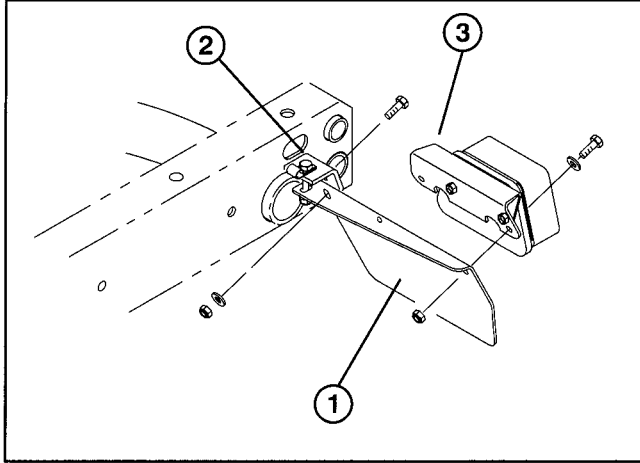

Figure 1
3. Secure rear of each tail light plate to rear of frame brackets with a 1/4-20 x 3/4" lg. capscrew, .281" I.D. flatwasher and nut, as shown in figure 1.
4. On left side, remove (2) capscrews, washers and nuts securing tail light mounting bracket to tail light plate.